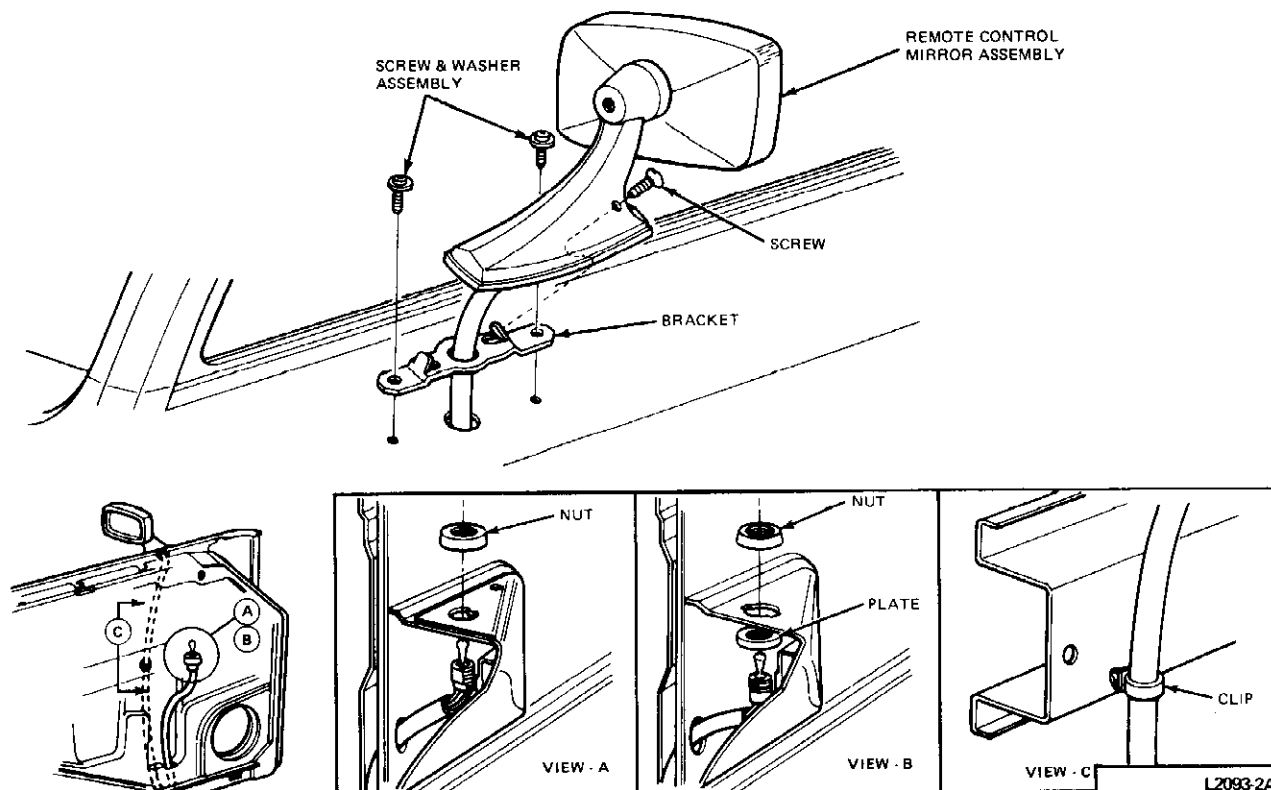

FIG. 3 L.H. Remote Control Mirror Installation—Ford and Mercury
2. Install the mirror cable-to-door retaining clip and seat the grommets into position (Figs. 3, 4, 5, 6, 7, 8 and 9).